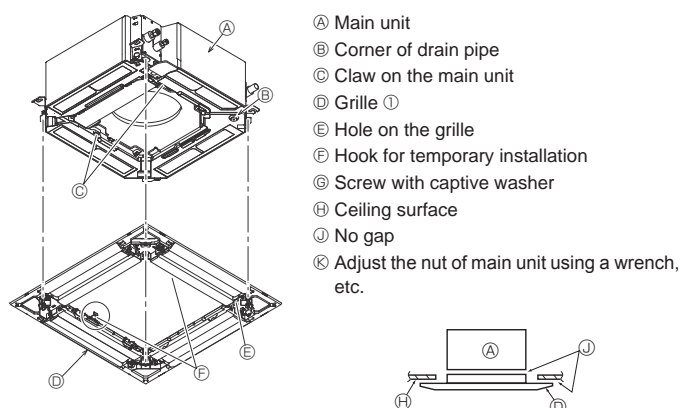

Fig. 6-6
### 6.4.2. Temporary installation of the grille (Fig. 6-6)
- By tightening the pre-installed screws, fix the grille onto the main unit. (Fig. 6-6)
Make sure there is no gap between the main unit and the grille or between the grille and the ceiling surface. (Fig. 6-6)